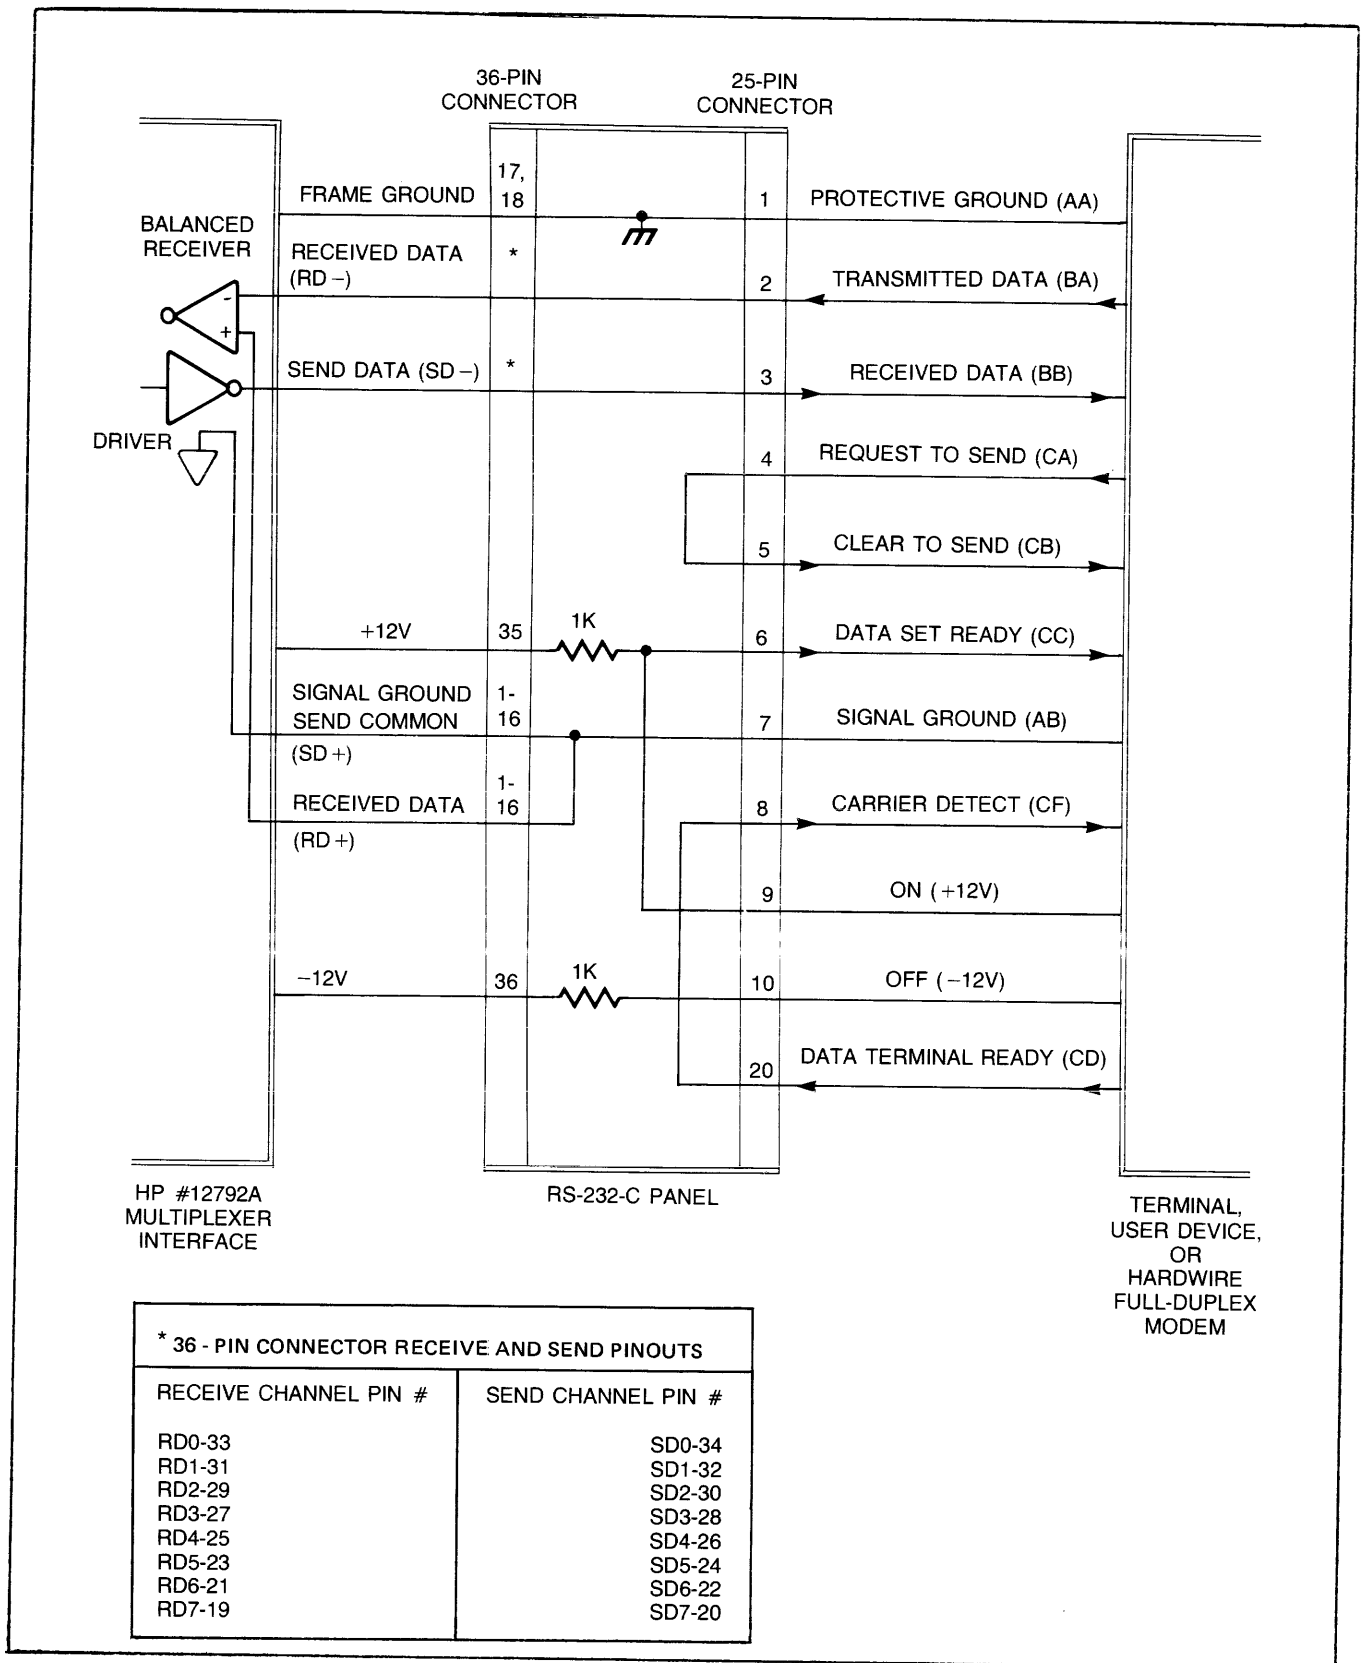

Figure 4-1 MUX interface-to-MUX Panel-to-device diagram
Figure 4-1 illustrates the RS-423-to-RS-232-C conversion. The balanced receiver for each channel on the MUX interface is fed from a twisted pair containing a data transmission line, Receive Data (RD-), and a Receive Data common (RD+). The fact that the RD- line carries the actual data signal may be confusing, however the MUX interface design inverts this signal as it enters the interface for use with the Z-80A SIO subsystem. The non-differential signal drivers, Send Data (SD-) and a respective Send Data Common line (SD+) make up the transmit data twisted pair.
The HP 12792A Multiplexer Subsystem is designed to be versatile and adaptable to a wide range of system configurations. Let's examine the various hardware components that may be required to connect your I/O devices to the Multiplexer Subsystem. The first component is the MUX interface itself. Since the interface is capable of communicating with up to eight devices, the next consideration is one of the location and distribution of these devices. This becomes your responsibility. Hewlett-Packard provides the means for this communication distribution through the use of HP 12828A RS-232-C Multiplexer Panel. This Panel is designed to convert the RS-423 standard, that originates at the MUX interface, to the RS-232-C standard, thus providing the backward compatibility needed for existing terminals and user I/O devices. Figure 4-1 illustrates the Panel-to-RS-232-C device connections. The Panel provides the necessary EIA RS-232-C Modem signal simulation (CA, CB, CC, CD, and CF) to be used if your terminals or devices require it. A device not requiring the extra protocol lines to operate can operate sufficiently using the Transmitted Data (BA) and Received Data (BB) lines.